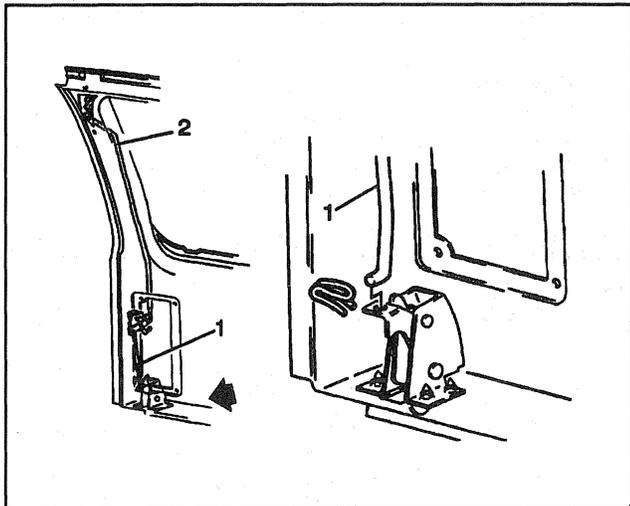

Figure 92—Lower Latch Control Rod
Remove or Disconnect (Figures 92 and 93)
4. Control rod from latch (Figure 92).
→→ Install or Connect (Figures 92 and 93)
3. Control rod to latch (Figure 92).